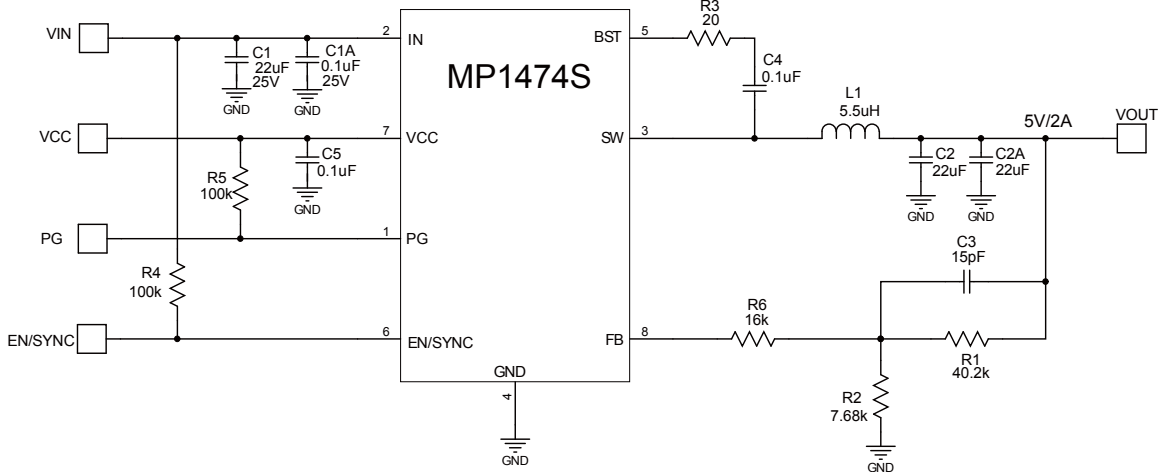

Figure 10. 12VIN, 5V/2A Output
- 9) The recommended layout is based on Figure 10 in the “Typical Application circuit” section on page 17.